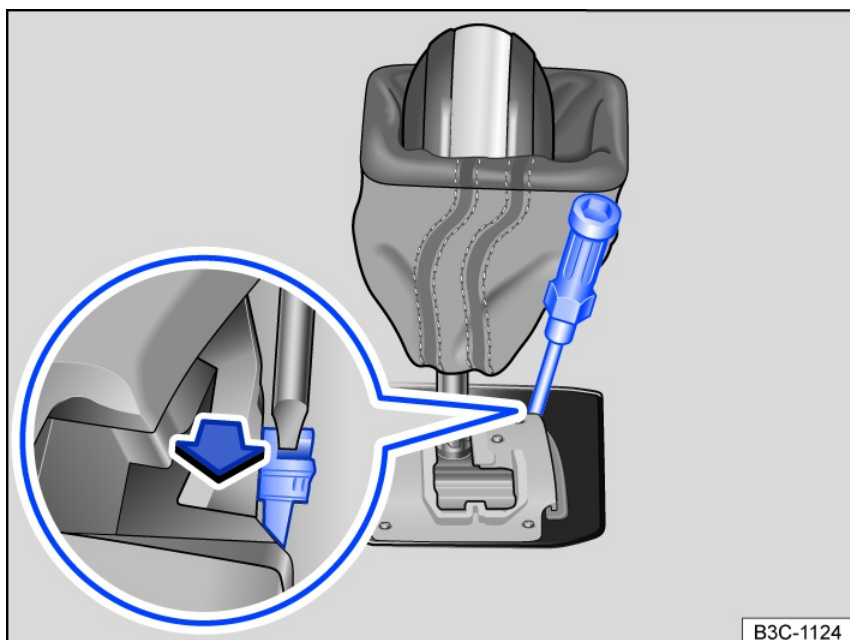

Fig. 115 Manually release the selector lever lock.
1. Push the release lever in the direction of the arrow and hold it in this position *fig. 115*.